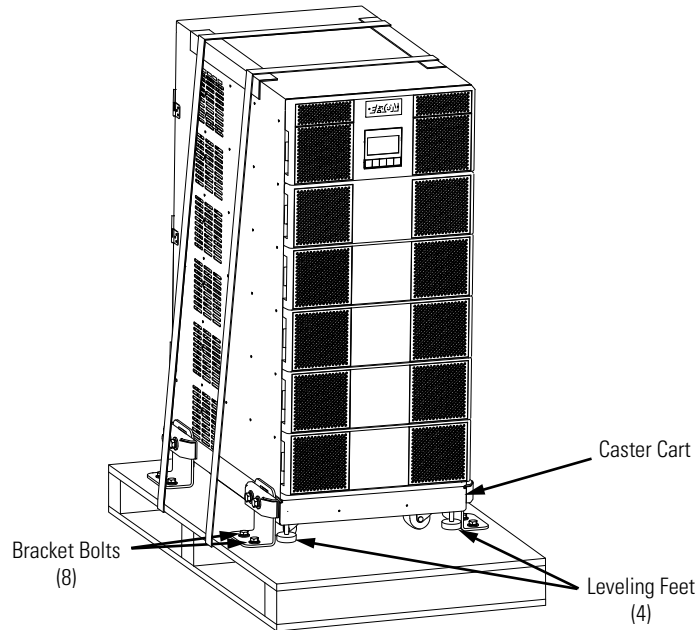

Figure 7. UPS on Shipping Pallet
2. If installed, remove the straps and bracket bolts that attach the UPS to the pallet (see Figure 7).